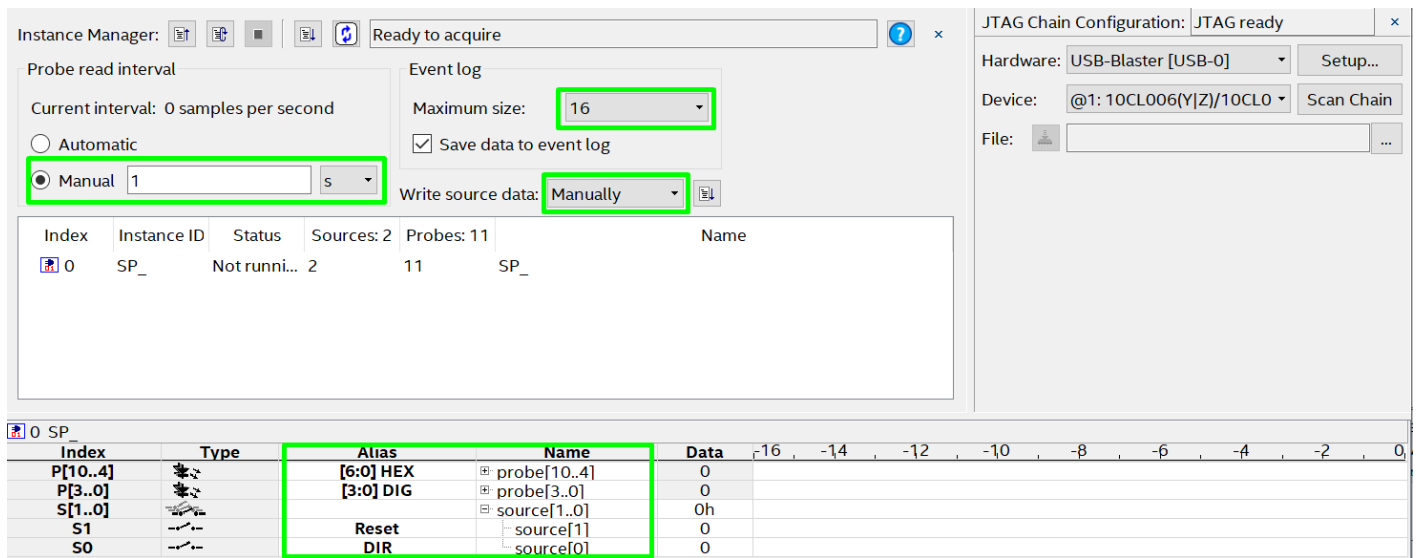

Figure 37
- b. Adjust all settings, signal and busses as pointed on Figure 37.